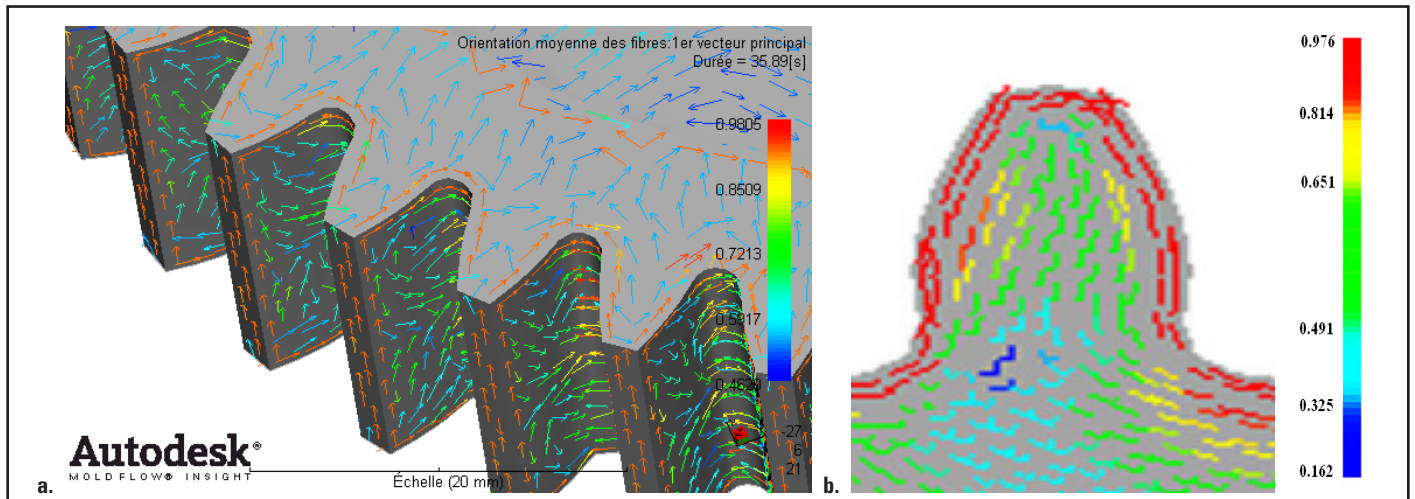

Figure 3 Shell fiber orientation (a); and core orientation fiber in teeth (b).
**Fiber orientation.** Fiber orientation simulations were conducted and compared to tomographical, experimental observations. The polymer used is the same in the simulation and for tomographical observations. Figure 3 shows fiber orientation on shell (a) and fiber orientation in the core zone (b). The anisotropy parameter corresponds to the first tensor order and varies between 0 and 1. Number 1 indicates the perfect alignment of the fibers parallel to the reference direction, and 0 is the case of perfect perpendicular alignment with the reference direction.